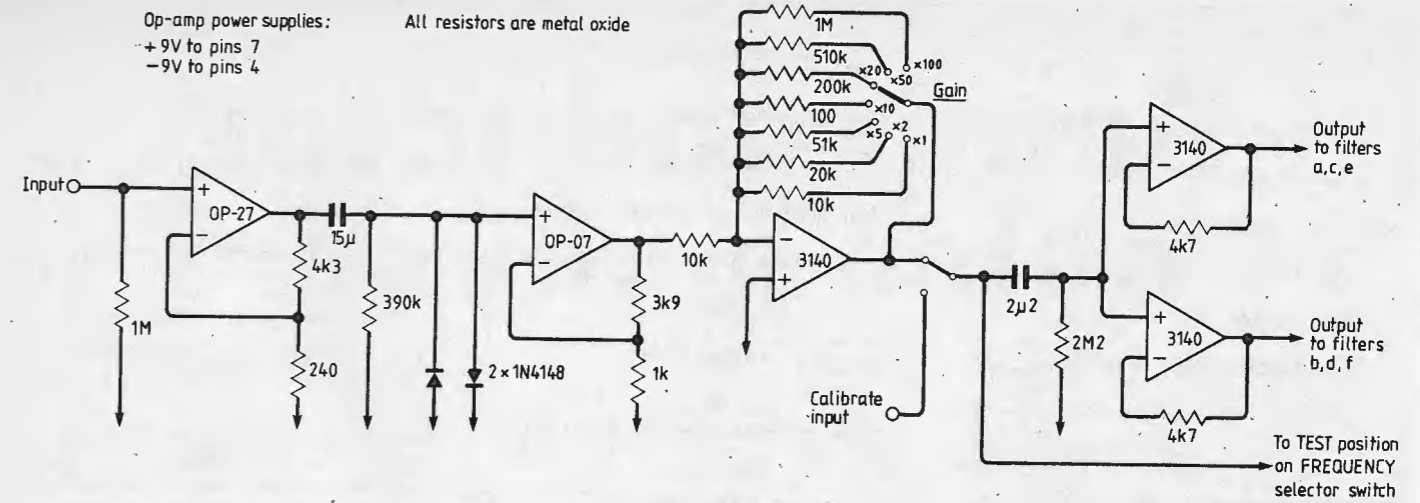

Fig. 4. Three-stage preamplifier, gain-switchable from 100 to 10,000.
**Preamplifier.** The first stage in Fig. 4 uses an OP-27 low-noise amplifier which, together with its input bias resistor, is the limiting factor in the measurement of test circuit noise. Its "white noise" voltage spectral density is typically  $3nV/\sqrt{Hz}$ , extending right down to 2.7 Hz, whilst the integrated low-frequency voltage noise from 0.1 to 10 Hz is typically 90nV. To this must be added the current noise developed across the input bias resistance ( $R_{in}$ ), and the thermal noise of the resistor itself. The 1MΩ resistor will normally be shunted by the (low) value of the output impedance of the front end; and the specification gives the equivalent noise for a grounded input.
The test circuit output is taken to a pre-amp, shown in Fig. 4, which has as its first stage an OP-27 ultra-low-noise op-amp. This is followed by two further gain stages and buffers, which altogether provide a voltage gain switchable from 100 to 10,000 in 1,2,5 steps.